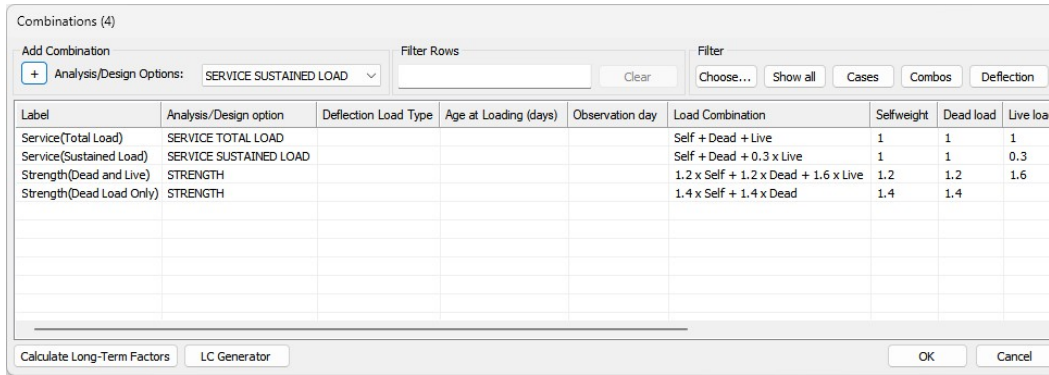

Figure 2.4-1 – Combinations dialog
- Click on the **Load Combinations**  icon. This will open the *Combinations* window from **Figure 2.4-1**.